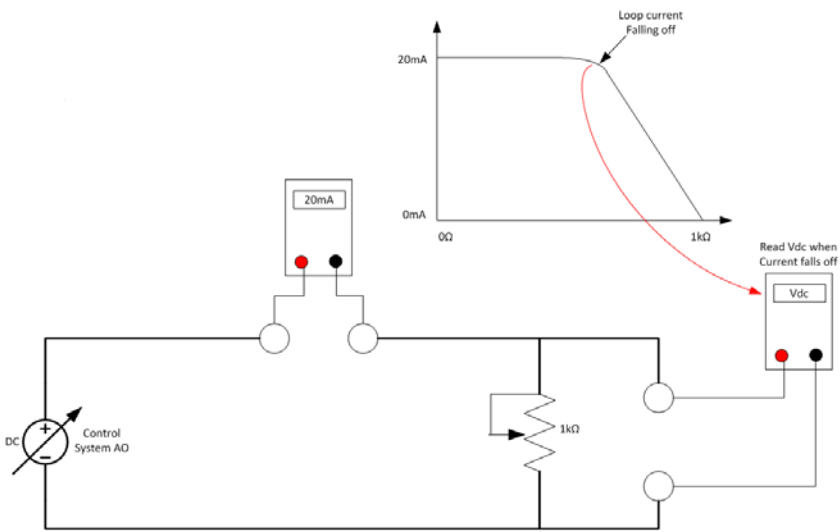

Figure 38 Compliance Voltage Test Set-Up
1. Configure a test set-up as in Figure 38.